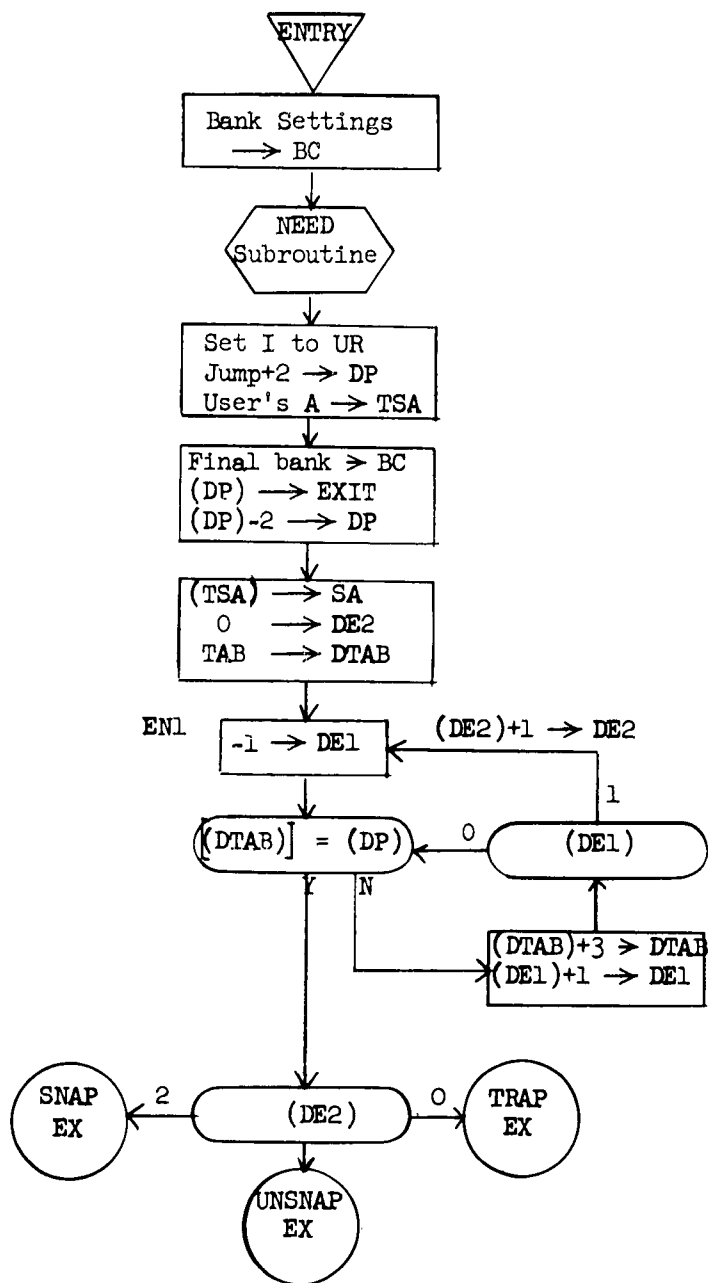

Figure 7.42      ENTRY
7.4 ENTRY Subroutine - TRAP, SNAP or UNSNAP Execution (Figure 7.42)